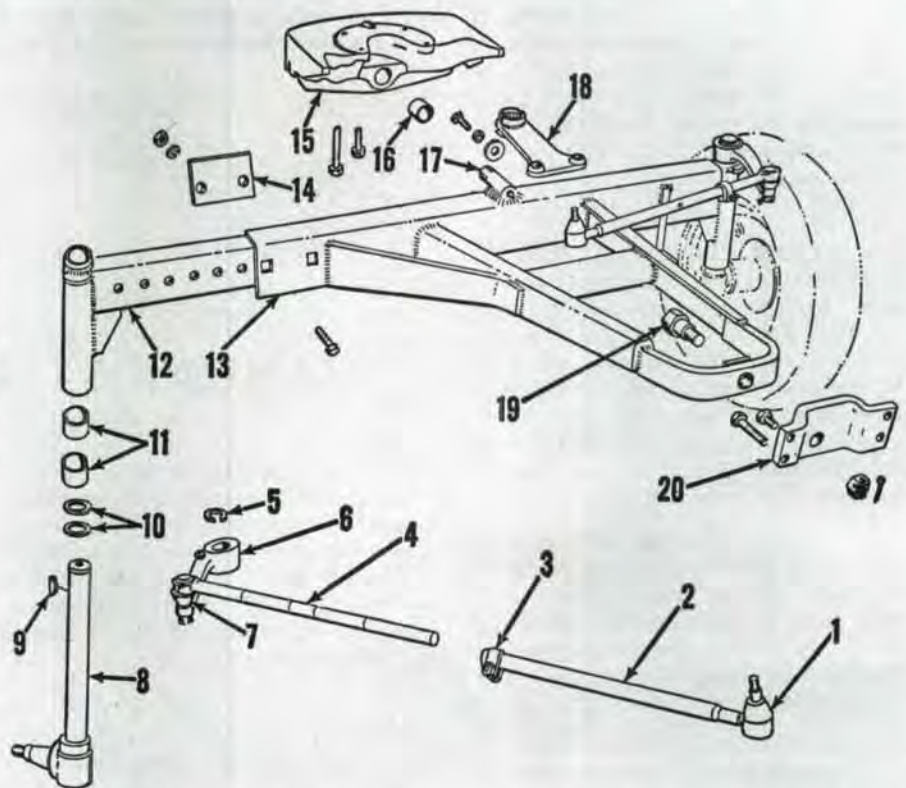

Fig. AC4 — Exploded view of adjustable front axle assembly and associated parts. Center (main) member and radius rod (13) is a welded assembly.
**8. RENEW AXLE PIVOT PINS AND FRONT PIVOT PIN BUSHING.** To renew axle rear pivot pin (19—Fig. AC4), support front of tractor, unbolt pivot pin bracket (20) from engine rear adapter plate and lower bracket until nut and pivot pin can be removed. Install new pin through radius rod and pivot bracket. Tighten nut securely. Install cotter pin, then bolt pivot bracket back to engine rear adapter plate. No rear bushing is provided.